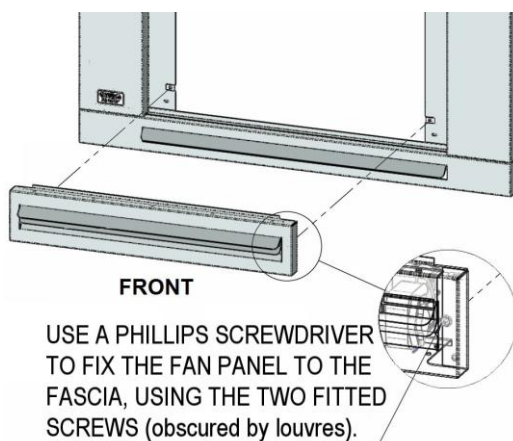

Fig. 14
- R4.** Mount the Fan unit and hearth to the fascia (Fig. 14) by securing the two screws as shown.